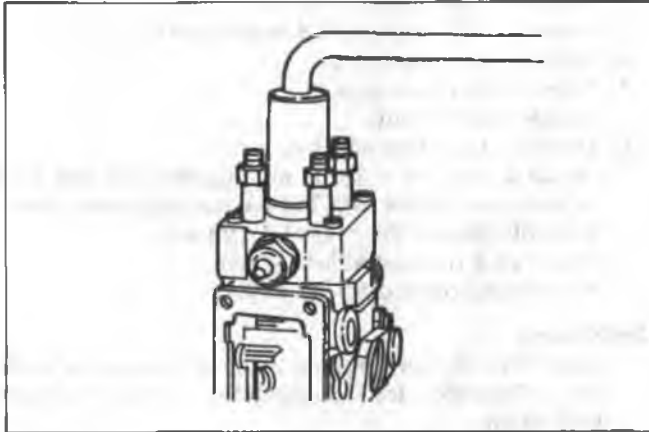

Fig. 4-26 High Pressure Plug Removal
5. Remove high pressure plug using tool J-33309 (Fig. 4-26).
3. Remove high pressure plug using tool J-33309 (Fig. 4-26).
4. Remove "O" ring (129).